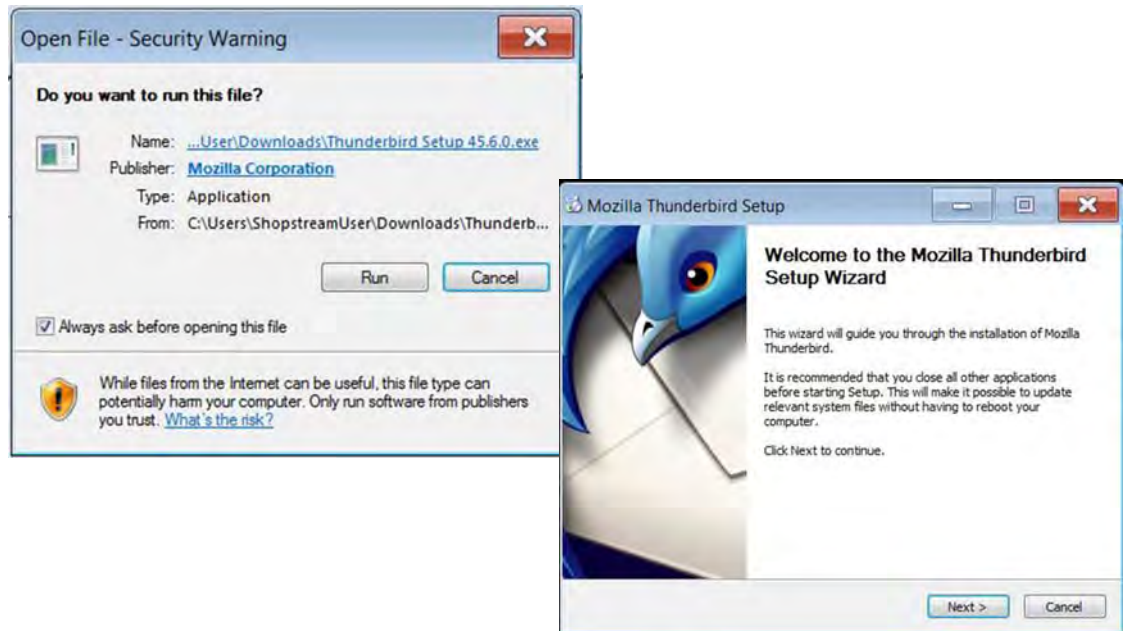

Figure 10-10
2. Install the software following the screen prompts (Figure 10-10).